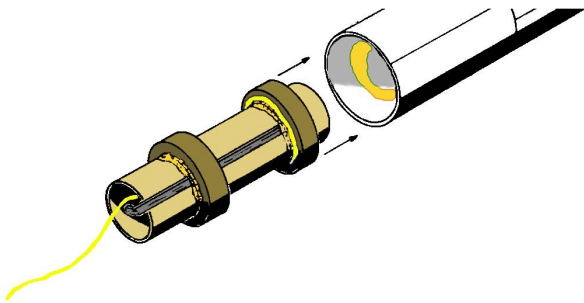

Figure 5
- **Step 13** As shown in Fig. 5 above, push the Kevlar thread down through the center of the mount from the top, and pull all of the excess out the rear of the tube. Apply a generous bead of glue up inside the bottom end of the main body tube, about 2" up from the edge. Spread this around evenly with a soft-bristle brush. With one continuous motion, insert the forward end of the engine mount up into the bottom end of the body tube and push completely in until the bottom edge of the motor mount tube is even with the bottom edge of the main body tube. Do not allow the mount to stop before reaching this position, as the glue will "freeze" the mount in place too soon. Allow the glue to dry with the body tube in an upright position.